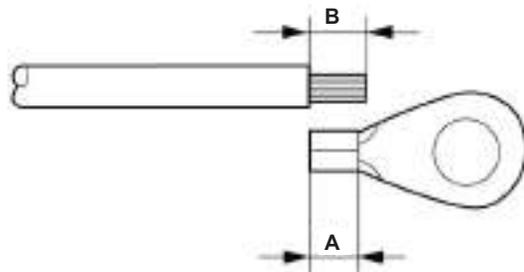

Figure 3.17 Suitable length
- 3) Strip the ground cable insulation to a suitable length(see Figure 3.17).